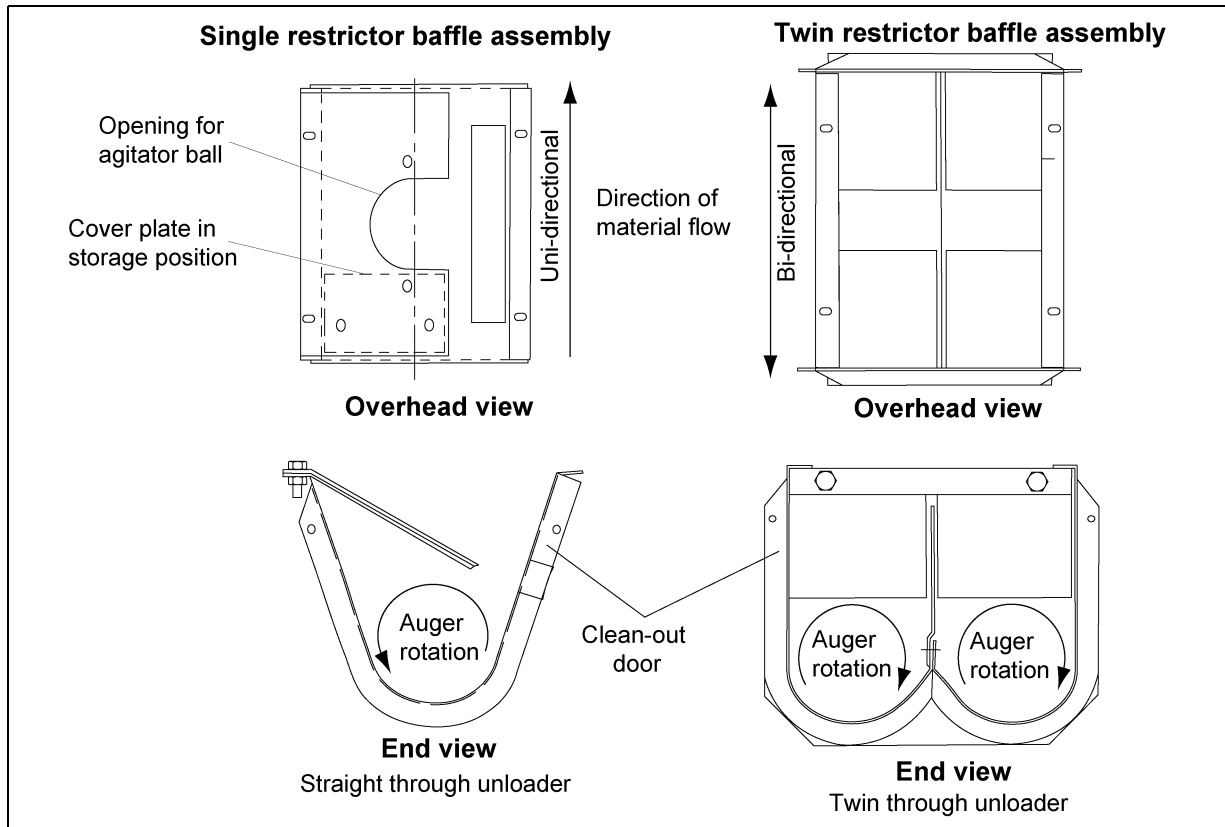

Figure 5H
2. Install baffle plate (FLX-4310) in the single-through unloader as shown in Figure 5H. The twin unloader baffle is factory installed as shown in Figure 5H.